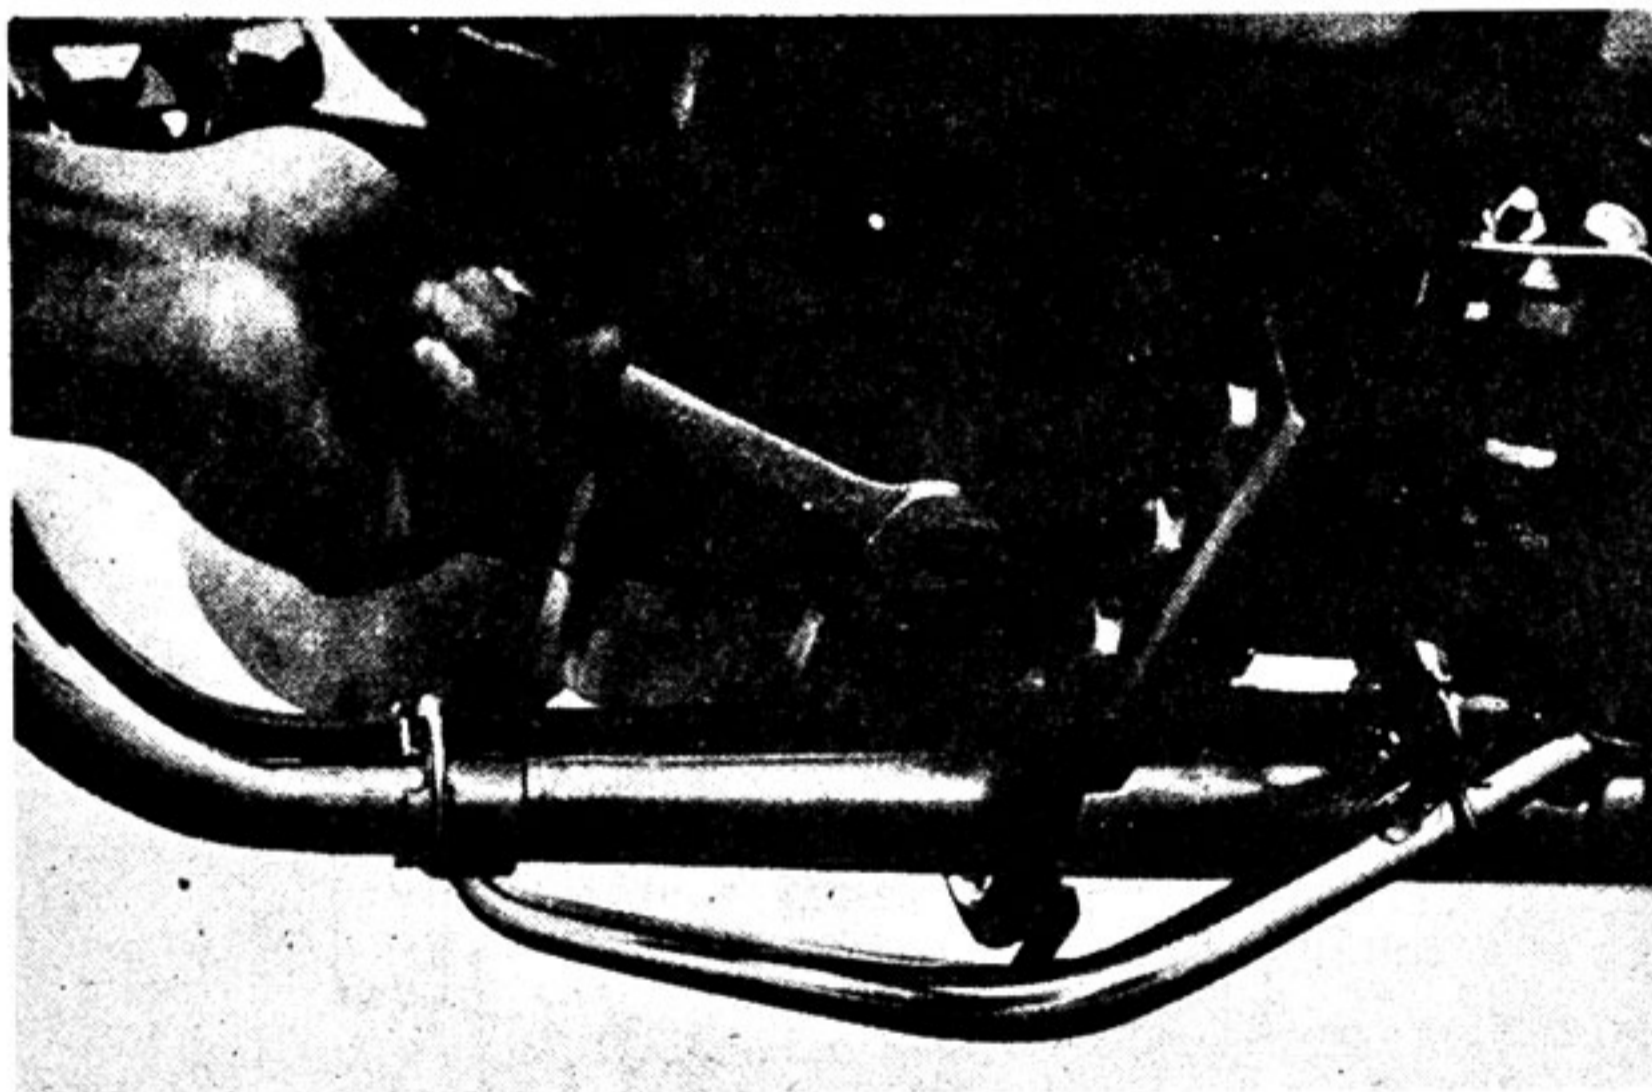

Fig. 4-1-2
1. Warm up the engine for a few minutes, and drain the transmission oil. (Fig. 4-1-2) Amount of transmission oil: